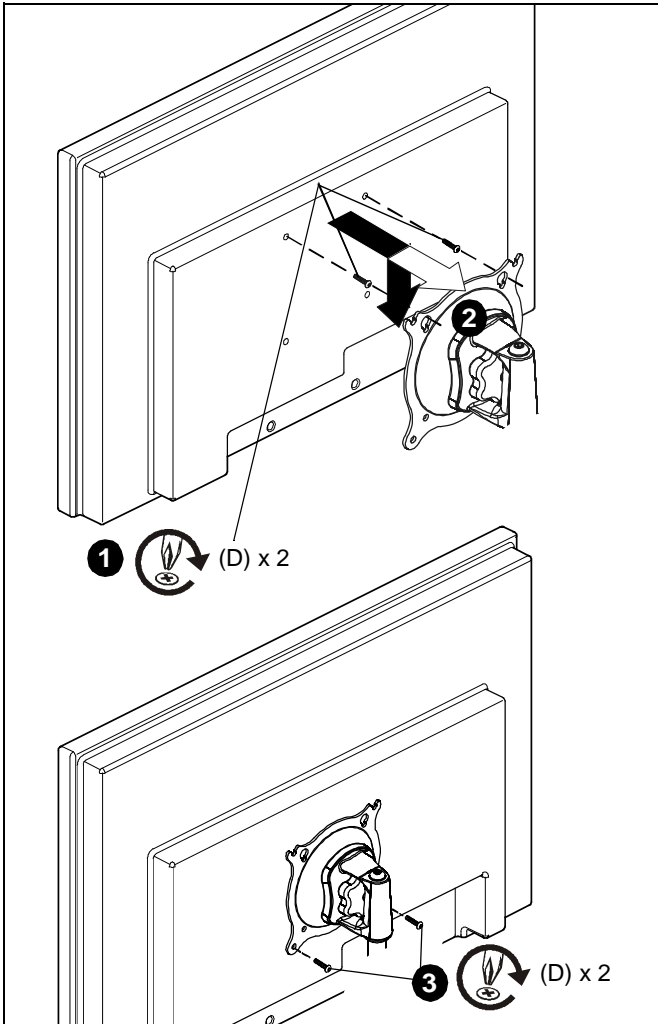

Figure 3
1. Using Phillips screwdriver, carefully install two M4 x 12mm Phillips screws (D) into the *upper* mounting holes on the display. Thread screws completely into display, then back out 3 complete turns. (See Figure 3)
2. Align two screws (D) (installed on the back of the display in the previous step) with the two top teardrop mounting holes on the Centris cup.
- Using Phillips screwdriver, install two screws M4 x 12mm Phillips screws (D) through the *lower* mounting holes in Centris Turntite head into the display. (See Figure 3)
- Tighten all four screws (D). Do not overtighten!